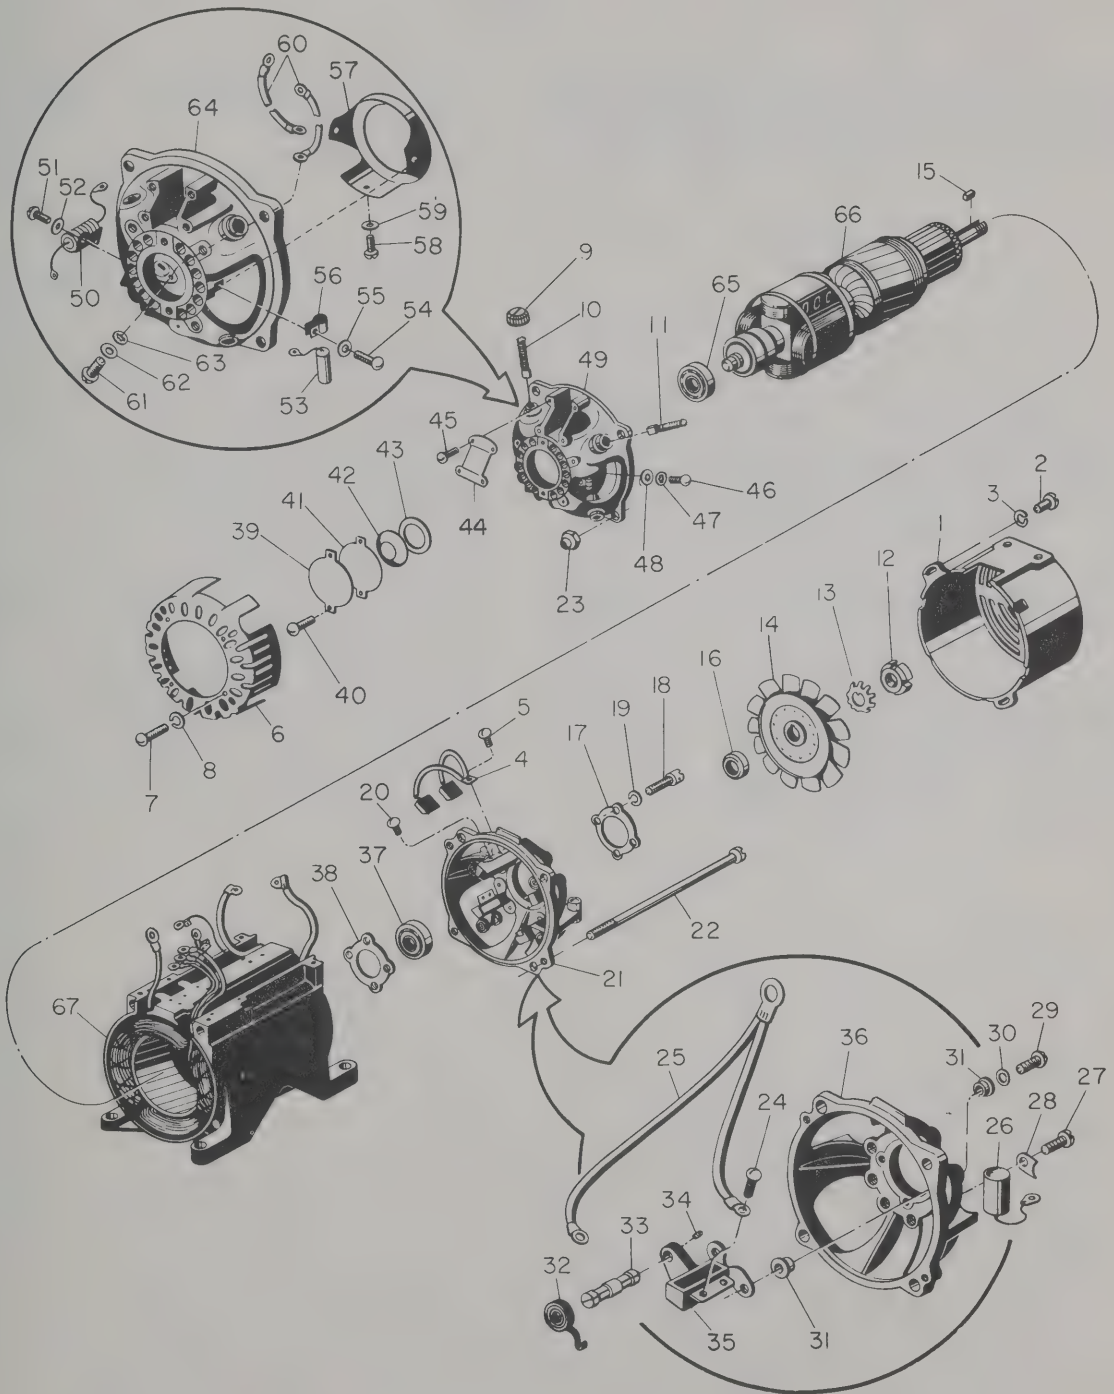

Figure 4-6. Motor-Generator Assembly
4-8. MOTOR-GENERATOR. (See figure 4-6.)
Legend for Figure 4-6.
7-3. Springs (fig. 4-6, ref. 32) tension should be 20 ounces + 10 percent at a position 30 degrees above new brush positions.